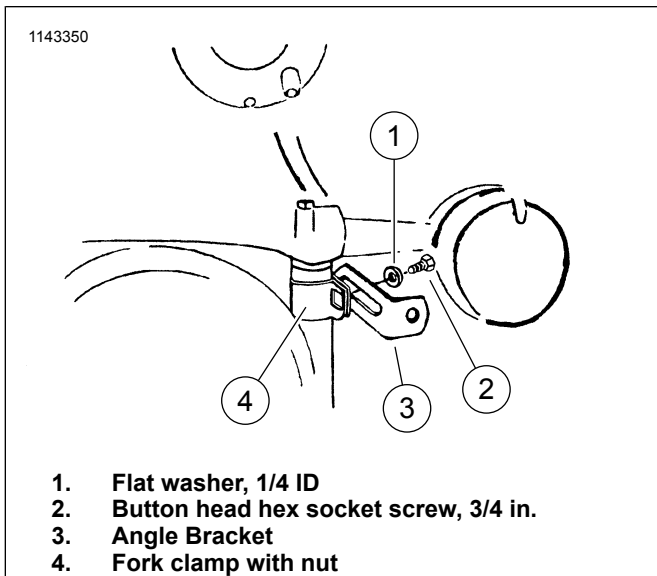

Figure 3. Assemble Lower Mount
6. See Figure 3. Spread the fork clamps (4) and place around the top of the fork tubes so the flat side is to the outside and pointing forward, squeeze the clamps tight on the forks.
7. Bolt the angle brackets (3) to the fork clamps with the button hex screws (2) and flat washers (1). The ends of the angle brackets will point out.